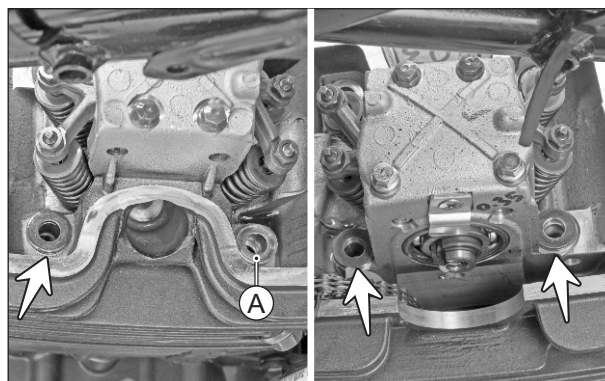

Fig. 3.42
- Remove punched washers (3 nos.) and a copper washer (A) from the mounting surface of bolt cylinder head. (Fig. 3.42)